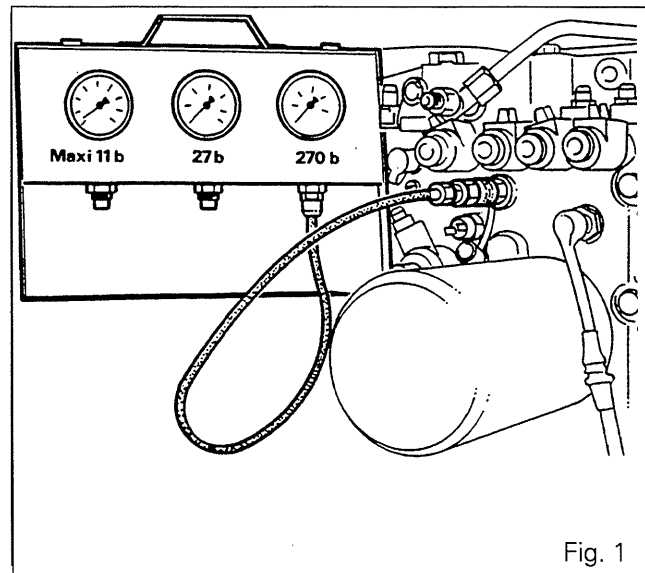

Fig. 1
- Fit a pressure gauge with a coupler 3582045 M1 (Fig. 1) on the diagnostic point located on the right-hand hydraulic cover.